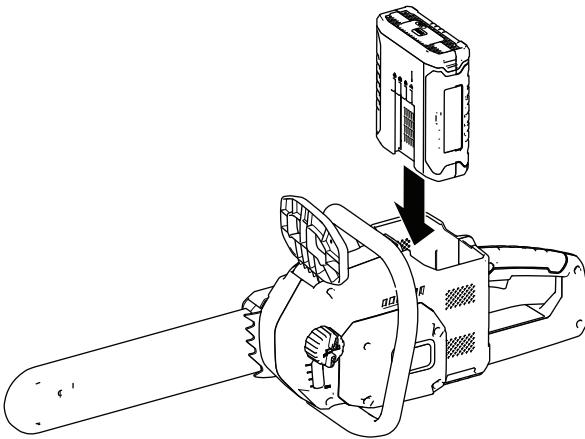

Figure 26
2. Align the tongue of the battery pack with the battery cavity in the chain saw (Figure 26).